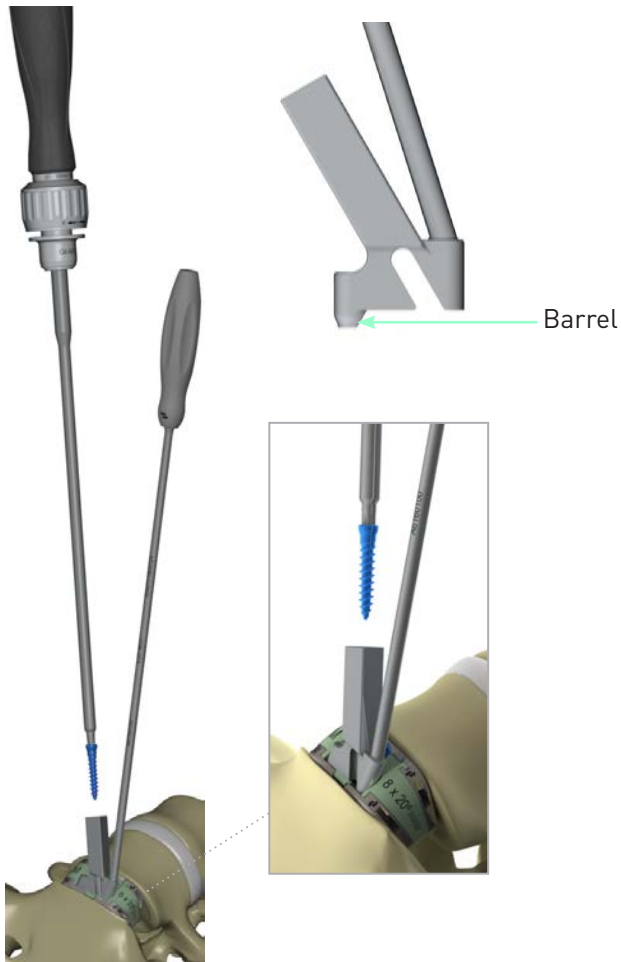
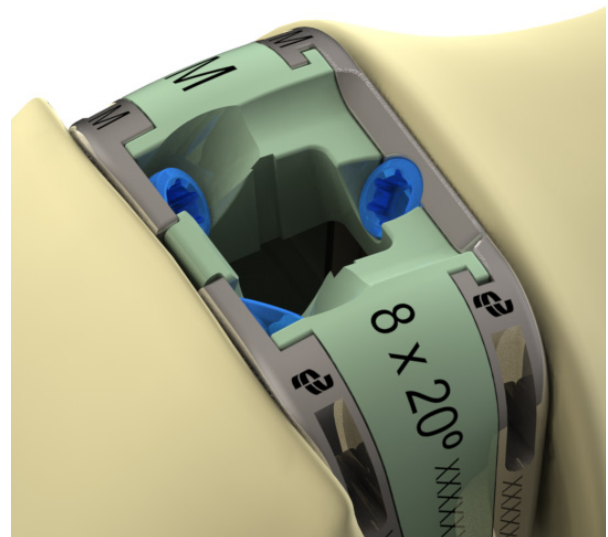

Fig. 43
Fig. 44
- The Divergent Screw Guide may be used to guide the first inferior screw (Fig. 43).
- Set the Divergent Screw Guide into the opposing inferior screw hole (Fig. 43), ensuring that the cylindrical feature locates into the opposing screw hole. Press the screw onto the Screwdriver tip and insert screw through the Screw Guide and into the implant (Fig. 44).